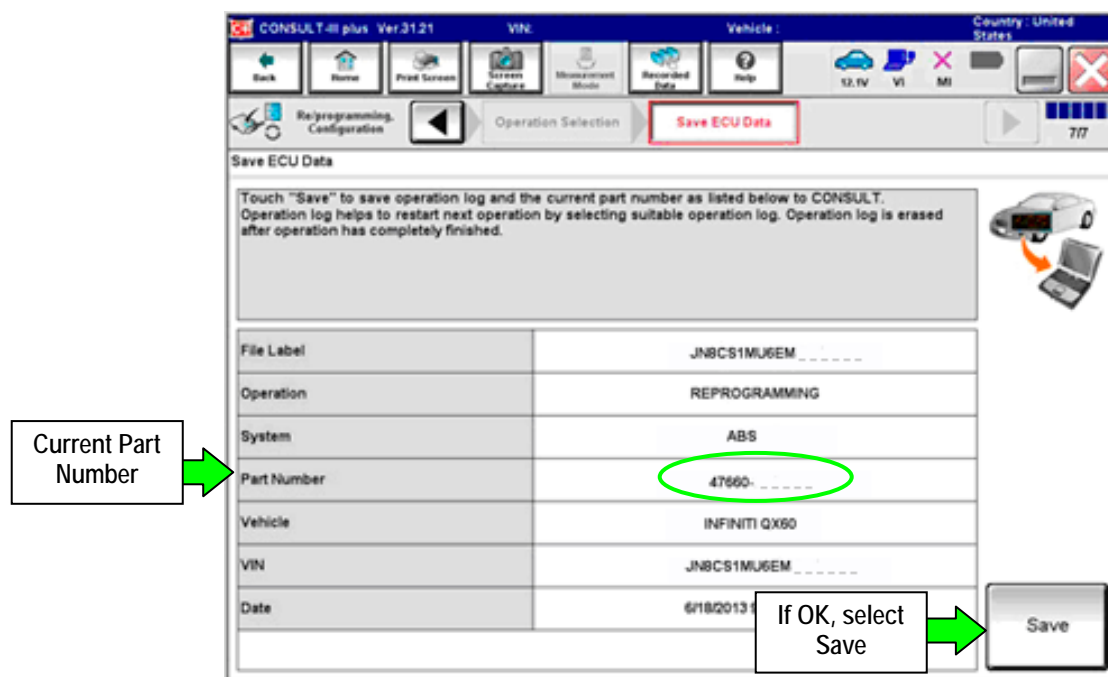

Figure 8
14. When you get to the screen shown in Figure 8, confirm reprogramming applies as follows: